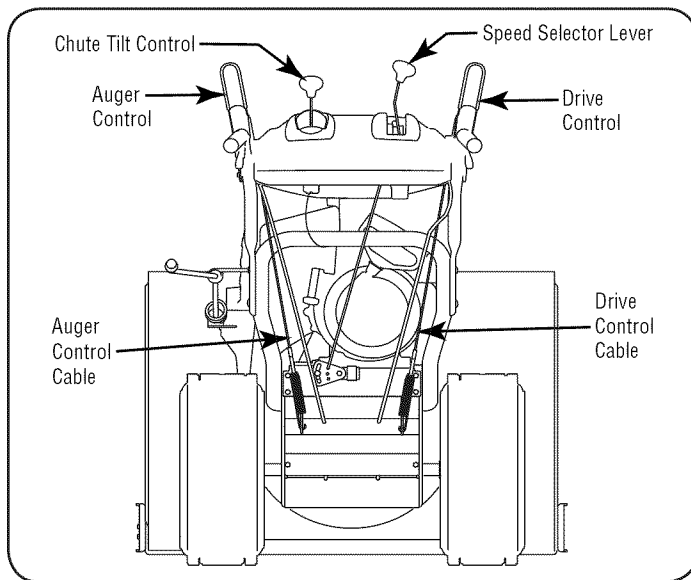

Figure 13
1. When the auger control is released and in the disengaged "up" position, the cable should have very little slack. It should **NOT** be tight. Refer to Figure 13.
4. Allow the auger to remain engaged for approximately ten (10) seconds before releasing the auger control. Repeat this several times. **NOTE:** When engaging the auger, you may hear a "chirp" sound. This is normal, it is the belt engaging the pulley. As the belt wears, this sound will not be heard when engaging the auger.
- With the engine turned off, move the speed selector lever into sixth (6) position. Refer to Figure 13.